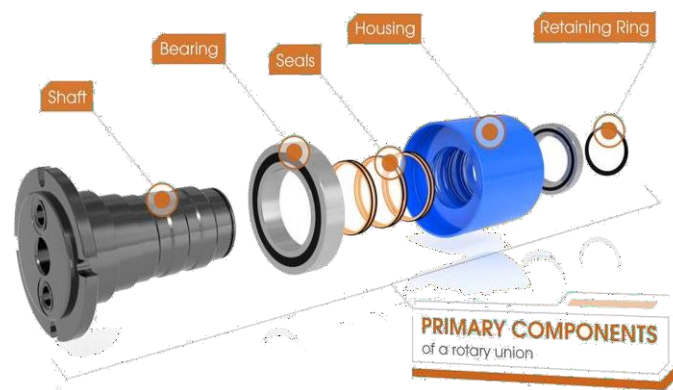

Figure 2- Rotary union and its components
**Rotary Union:** The air chamber that the rotary union is made of allows air to move along the shaft's revolution. Figure 2 depicts the rotary union in more detail